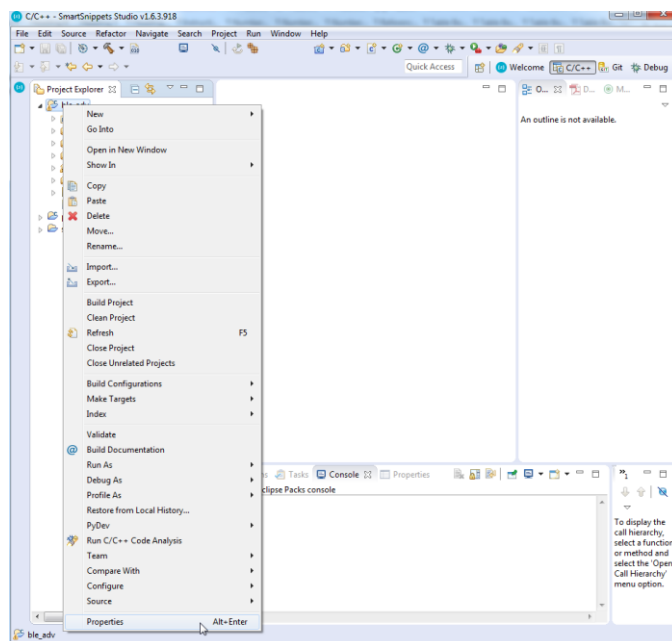

Figure 4: Edit project properties
- Open the project **Properties** to edit the new configuration with a right click on the application project (Figure 4).